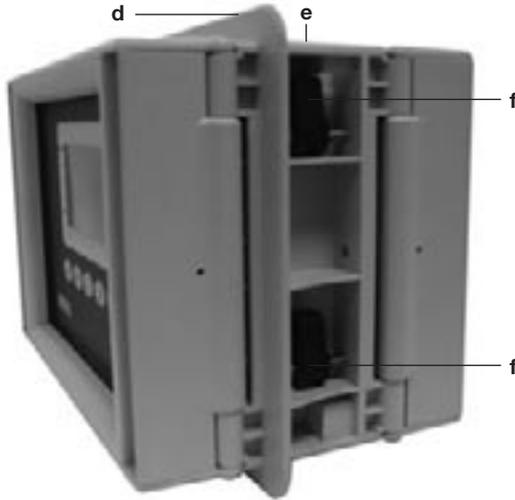

Fig. 11
8. Slide the M800 flow computer through the aperture until bezel 'd' (Figure 11) butts up against the panel front.
9. Tighten the four clamping screws 'g' through the access holes in the M800 front panel bezel. This will automatically extend the clamping legs 'f' (Figure 11).